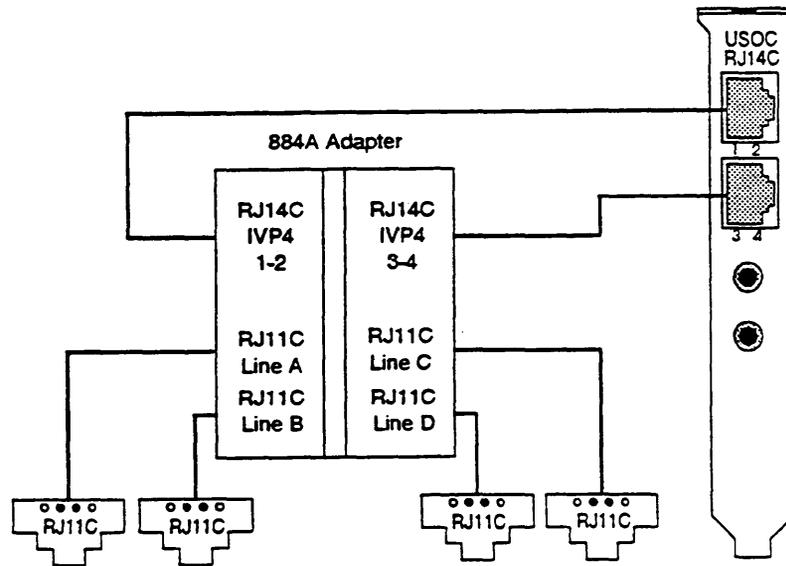

Figure 2-4. IVP4 Board with 884A Adapter for RJ11C
- If the line pairs are run individually (RJ11C), a type 884A adapter may be used to consolidate the four individual line pairs into two pairs (RJ14C) in each of two cables. (See Figure 2-4.)